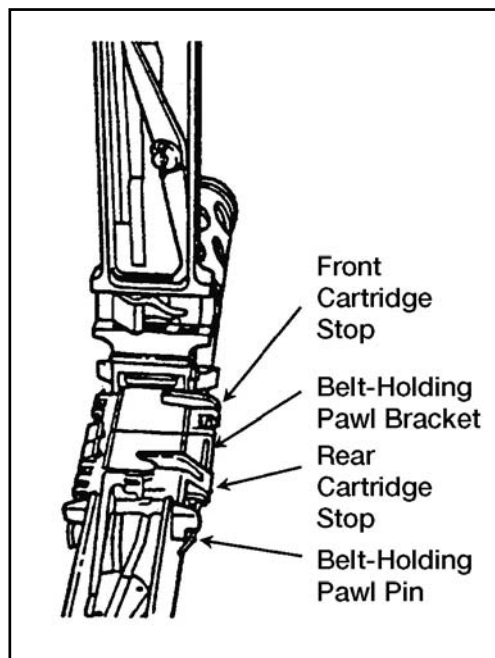

Figure 071-022-0001-24. Installation of the rear cartridge stop assembly and front cartridge stop
(1) Determine the direction of feed. Figure 071-022-0001-24 shows left-hand feed. Place the right-hand rear cartridge stop assembly and front cartridge stop on the belt holding pawl bracket.